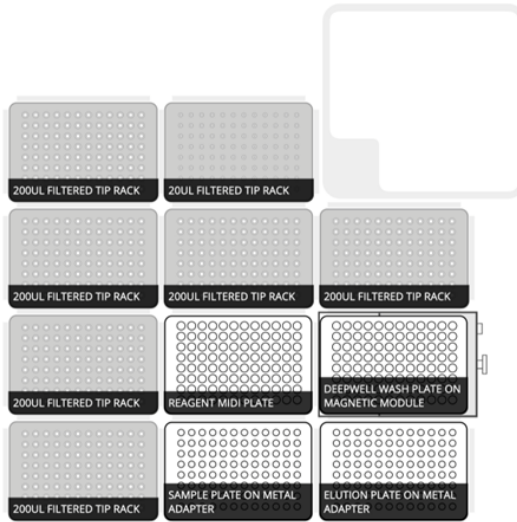

Figure 7. Deck map for Post 3 – Normalization protocol.
- h. Load labware onto the deck as shown in the deck map (also shown in Figure 7).